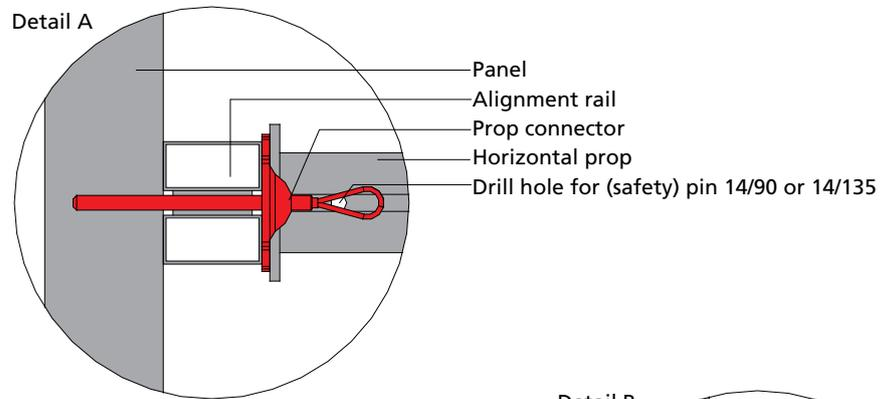

Fig. 16.3
- The prop connector is screwed through an alignment rail into the welded nut of the multi-function profile of the wall formwork panel (Fig. 16.3).